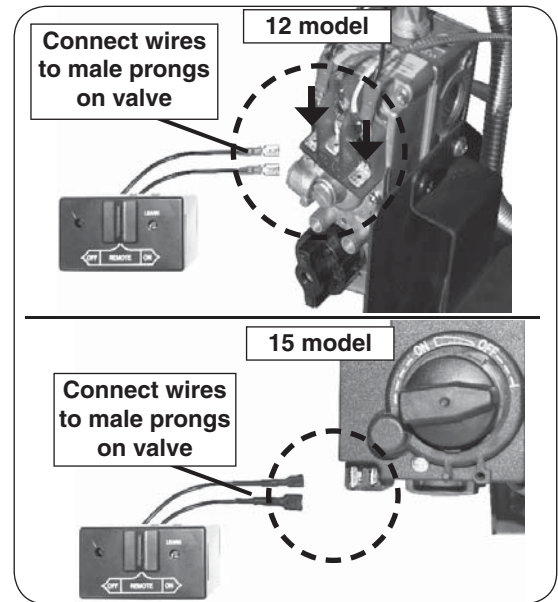

Fig. 20-1 Connect remote receiver to valve
2. Locate the wires coming off of the remote receiver, and connect them to the two male prongs found on the valve (see Fig. 20-1).